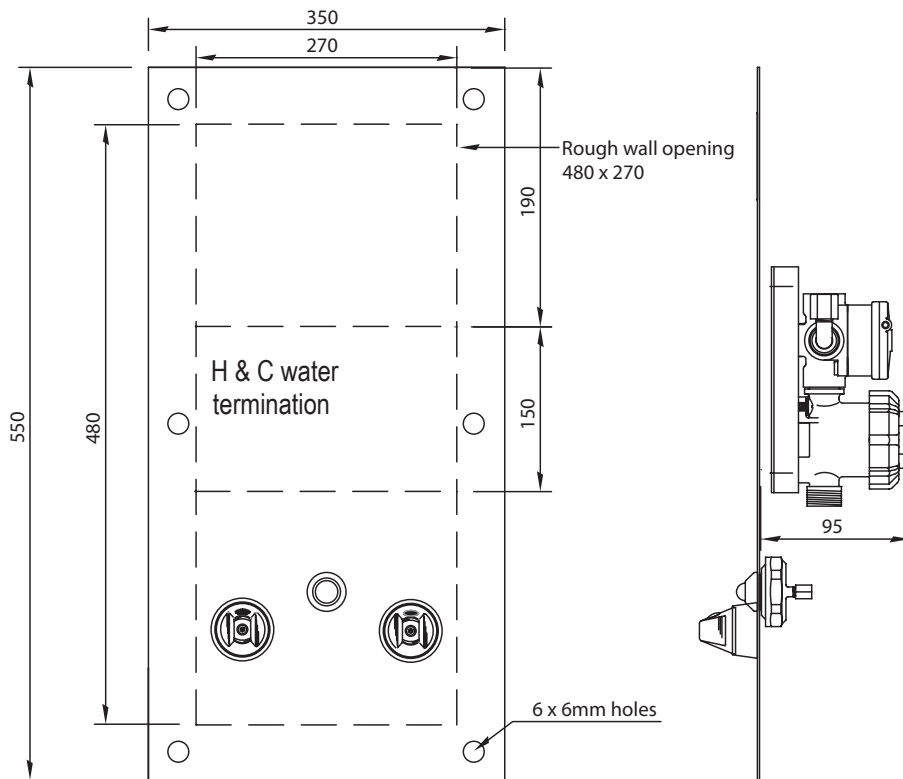

FIG 1
1. A rough wall opening of 480 x 270 and 95 deep, as shown in FIG 1, should be prepared, and existing recess cocks (where applicable) removed.